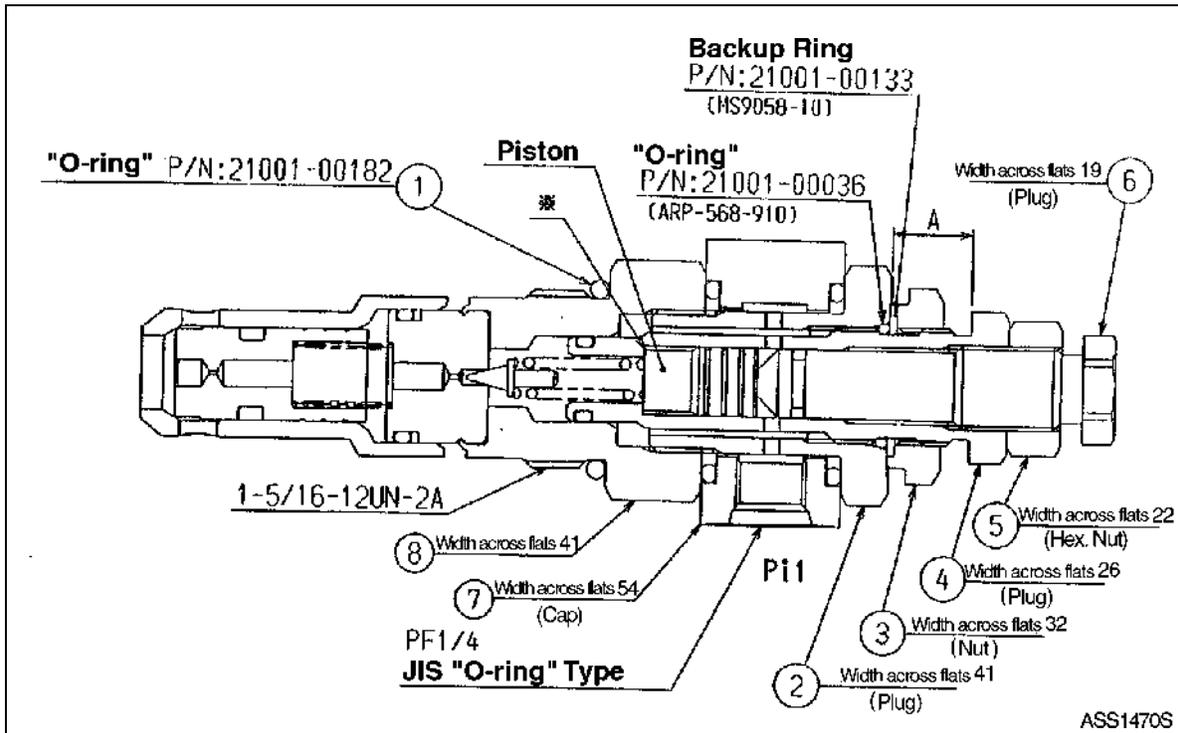

Figure 56 S/N 1001 thru 1050
Check whether there is dirt or paint chips around plug (2 and 4, Figure 56) and nut (3). Reassemble with new O-rings. Clean the installation portion of relief valve and install it. Tighten cap (8: Width across flats 41). Torque is 9.48 - 11.01 kg•m (69 - 80 ft lb).